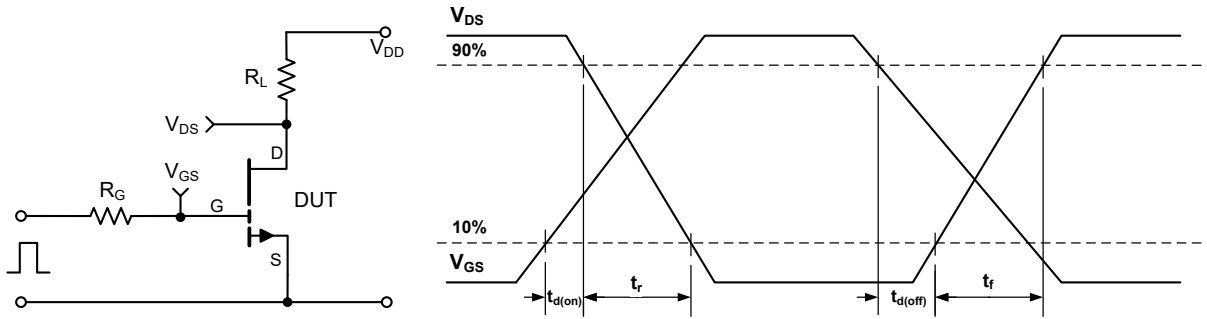

Figure 12: GS66516B switching time test circuit and waveforms
(6) See Figure 12 for timing test circuit diagram and definition waveforms.